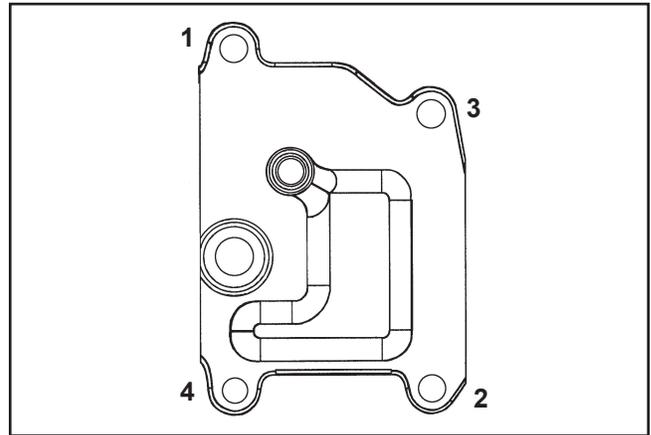

Figure 11-26. Breather Cover Fastener Torque Sequence.
6. Install and torque the four breather cover hex flange screws to **7.3 N·m (65 in. lb.)** in the sequence shown in Figure 11-26.